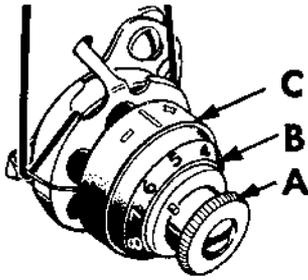

FIG. 38.
Machines 99K, 185K, 201K, 327K, 328K and 329K are furnished with a tension indicator and flange (C and B, Fig. 38). The index flange (B) is marked with numbers 0 to 9 indicating the different degrees of tension that can be produced. By noting a particular number opposite the white line when set for a satisfactory tension on work being stitched, this number can be readily reverted to when changing from one class of material to another. The higher numbers denote increased tension and the lower numbers less tension. Notice also that the tension indicator (C) is marked with the signs + and — which indicate the direction to turn the thumb nut (A) for more or less tension.